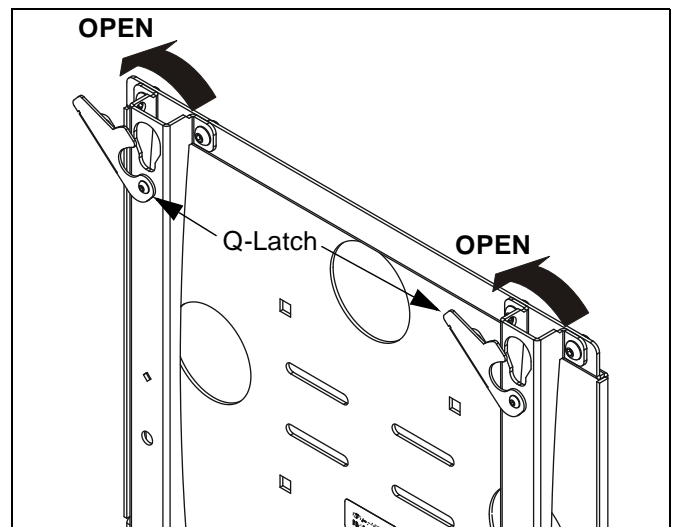

Figure 2: Open Q-Latch
2. Rotate both Q-Latches to the OPEN position (See Figure 2).